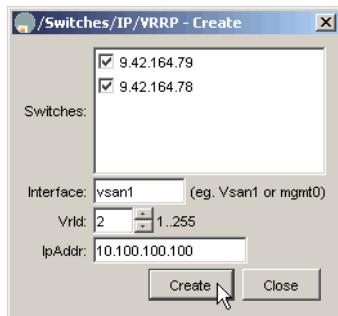

Figure 2-138 Creating IP address for VRRP for vsan1
11. Change the interface, VRRP number, and IP address to the values for the second VRRP group as shown in Figure 2-138.